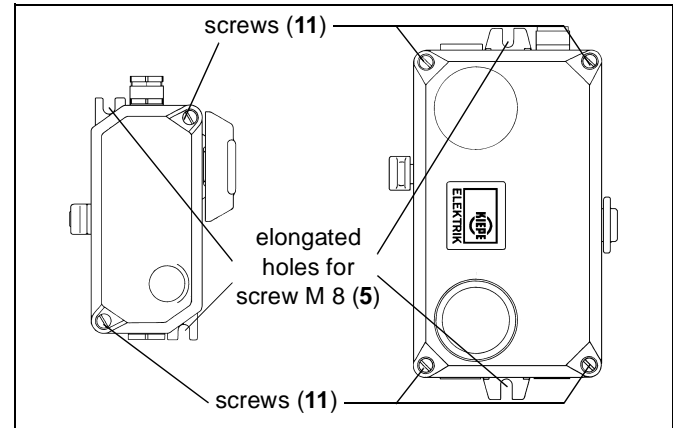

Fig. 5-11: Dismounting the pull rope switch
2. Open the cover (12) of the pull rope switch by loosening the screws (11) (s. fig. 5-11).
4. Loosen the two screws M 8 (5), and remove the device (s. fig. 5-11).